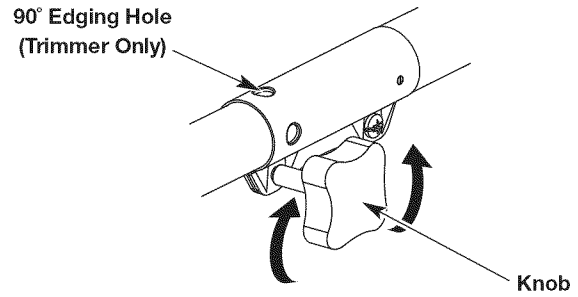
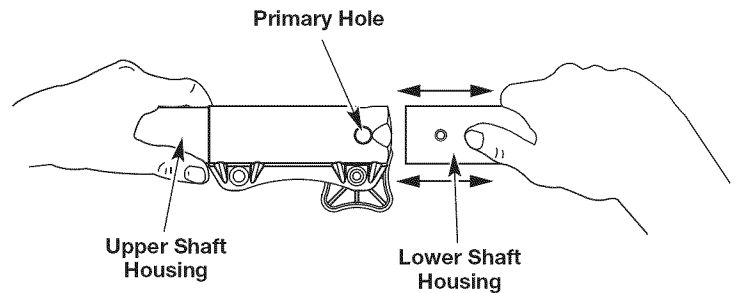

Fig. 3
Fig. 5
1. Turn the knob counterclockwise to loosen (Fig. 3).
2. While firmly holding the attachment, push it straight into the Convertible™ coupler until the release button snaps firmly into the primary hole (Fig. 5).
3. Turn the knob clockwise to tighten (Fig. 3).
CAUTION: Before operating this unit, be sure that the release button is fully snapped into the primary hole (Fig. 5), and that the knob (Fig. 3) is securely tightened.
For decorative edging with the line head trimmer attachment, lock the release button of the attachment into the 90° hole (Fig. 3).
3. While firmly holding the upper shaft housing, pull the attachment straight out of the Convertible™ coupler (Fig. 5).